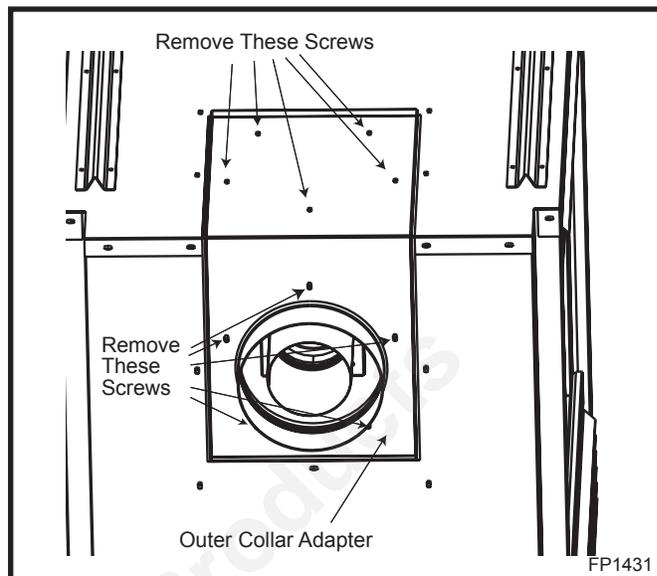

Fig. 9 Remove screws from outer collar adapter.
1. Remove the ten (10) screws securing the outer collar adapter to the fireplace body. (Fig. 9)